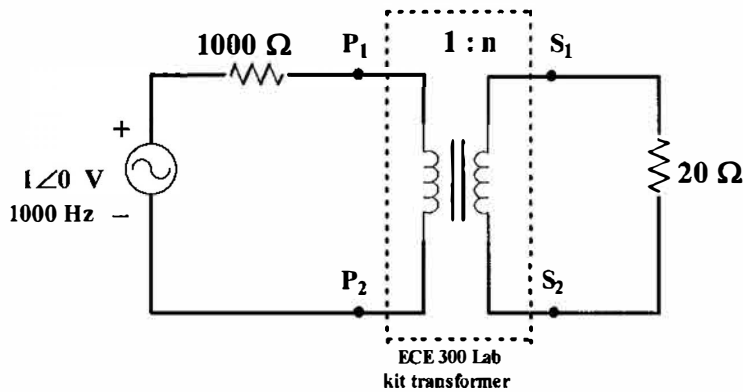

Figure 1.21: Circuit connection for Part 5PE.
- (a) Consider the circuit shown in Figure 1.21. Calculate the total resistance the source will see, to the right of P_1 - P_2 , after the 20Ω load resistance and the 15Ω resistance in the S_1 - S_2 coil are reflected to the source side of the transformer and the 200Ω present from the source side of the transformer is added to the reflected resistance.